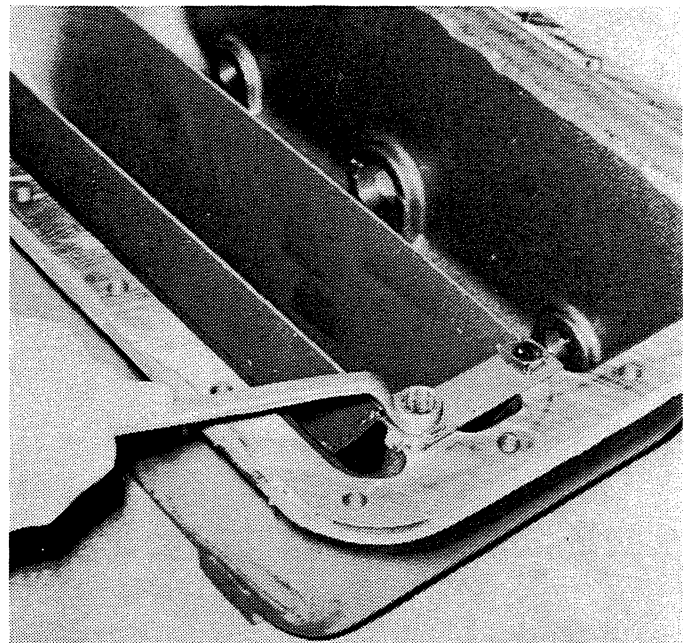

Figure 6-25. Removing or Installing Gear Pan.
8. If necessary, bend down the lock tabs, remove the four hex-head screws and remove the gear pan. See Figure 6-25.